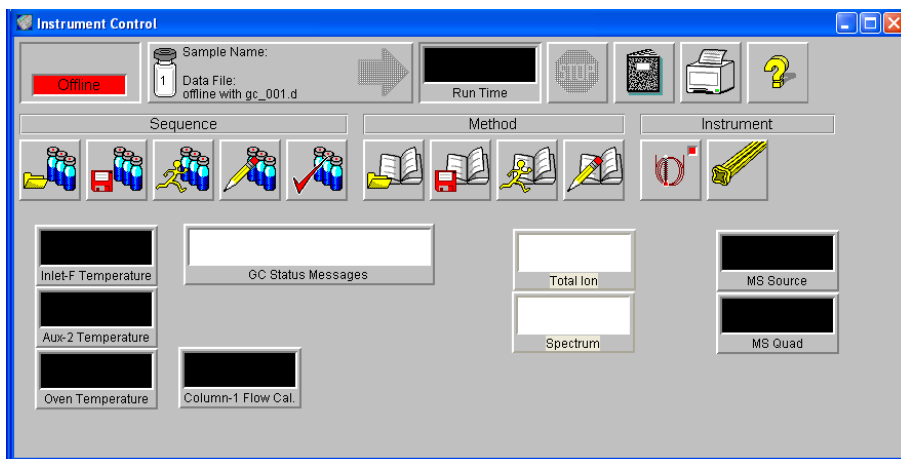

Figure 14 Arranging monitors
- 8 Click and drag each monitor to the desired position. See Figure 14 for one way of arranging the monitors.